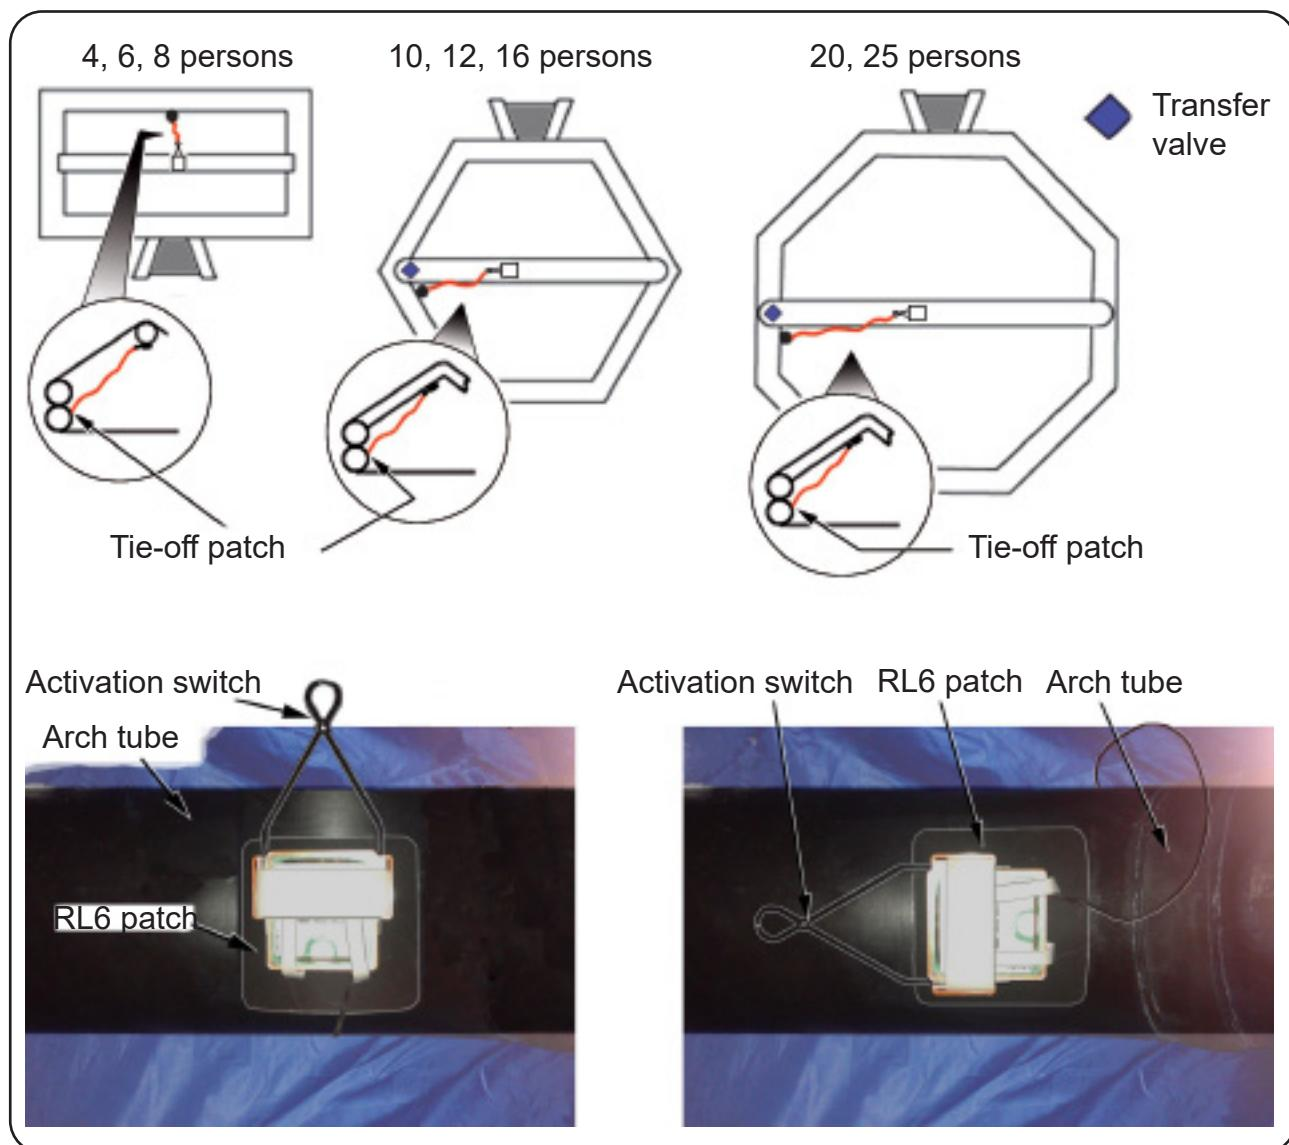

FIGURE 808H
NOTE: The location of the lamp activation patch will vary depending on liferaft size. Refer to FIGURE 808H to confirm correct location.
- (a) If the RL6 internal lighting patch has been correctly fitted on the arch tube it will be located as shown in FIGURE 808H.